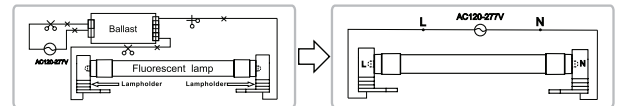

Figure 2. - Retrofit with One Lamp
8. Wire using appropriate wiring diagram. (**Figure 2, 3**).